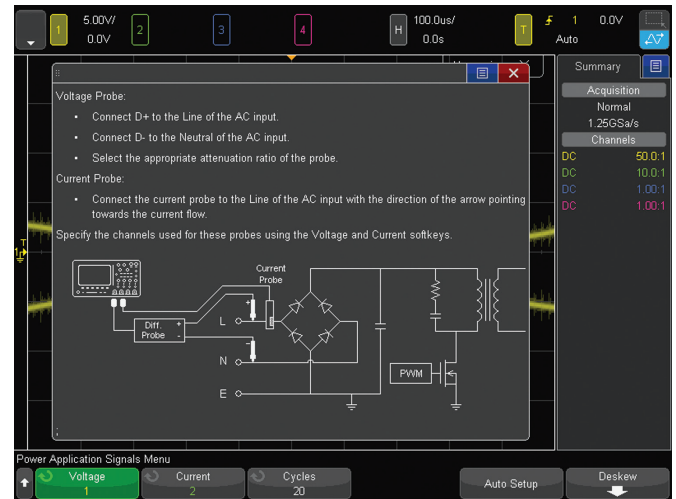

Figure 10. Connections diagram for the current harmonics measurement.
5. Connect the N2790A voltage probe from the scope's channel-1 input to Line (red lead) and Neutral (back lead) as illustrated in the connections diagram shown in Figure 10. If using Keysight's SMPS training kit, connect the probe to TP2 (red lead) and TP1 (black lead).